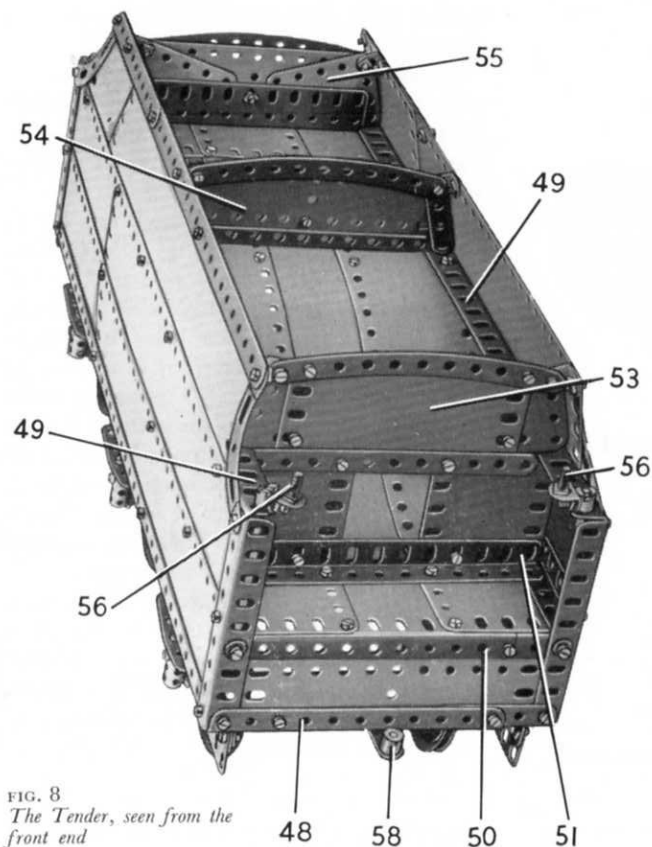

FIG. 8
Building the Tender (Figs. 8 and 9)
The partition (53) (Fig. 8) is made by bolting two $2\frac{1}{2}$ " \times $2\frac{1}{2}$ " Flexible Plates to the
The coupling for attaching the tender to the locomotive consists of a Threaded Pin (57) (Fig. 7), supported by a 1" \times 1" Angle Bracket. The Threaded Pin engages a Crank (58) (Fig. 8) that is lock-nutted to the front of the tender.